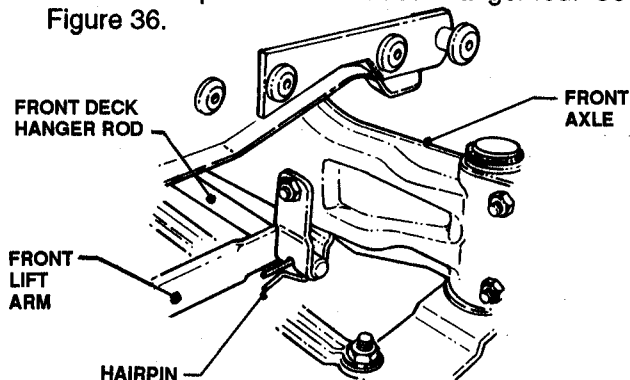

FIGURE 36
- Remove hairpins from front deck hanger rod. See Figure 36.
1. Place a piece of angle iron under lip at center rear of deck. See Figure 36.